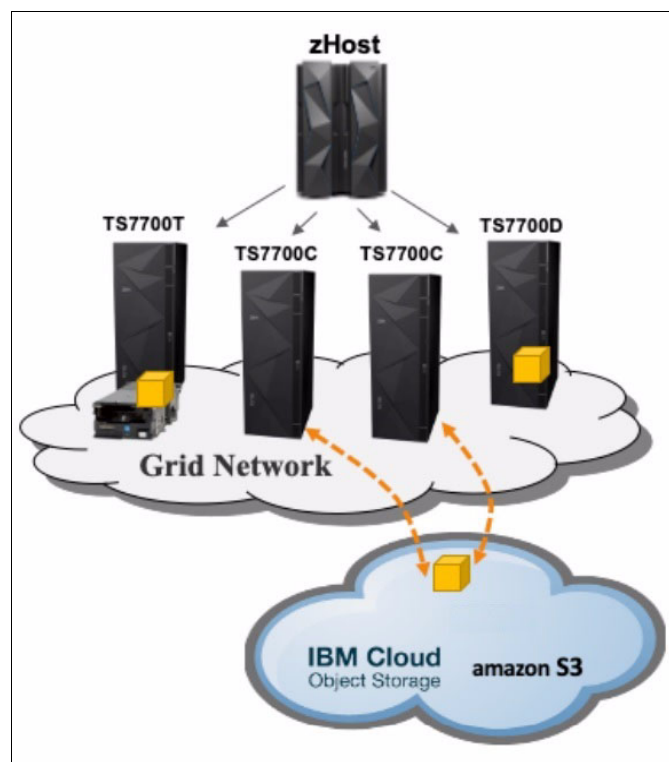

Figure 8-2 TS7700 Grid with Cloud and Tape Attached
- A mixed environment can be used that features Tape Attached (TS7700T), Disk Only (TS7700D), and Cloud Attached (TS7700C), but only the Cloud Attached clusters can access the cloud object store and perform read/write transactions against it. Corresponding volume tracking information is still shared with all clusters in the grid (an example is shown in Figure 8-2).